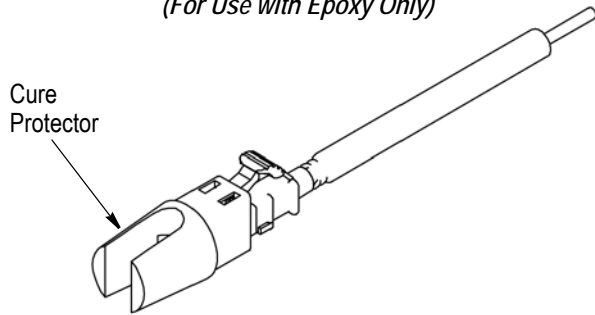

Figure 4
1. If using the epoxy, remove the protective cover from the connector subassembly, and attach the cure protector as shown in Figure 4.